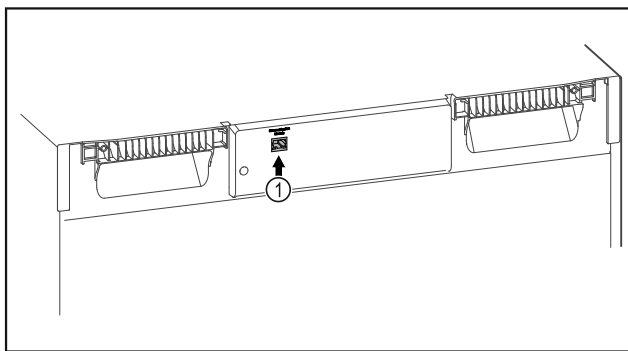

Fig. 124
- SmartModule Fig. 124 (1) is in use.